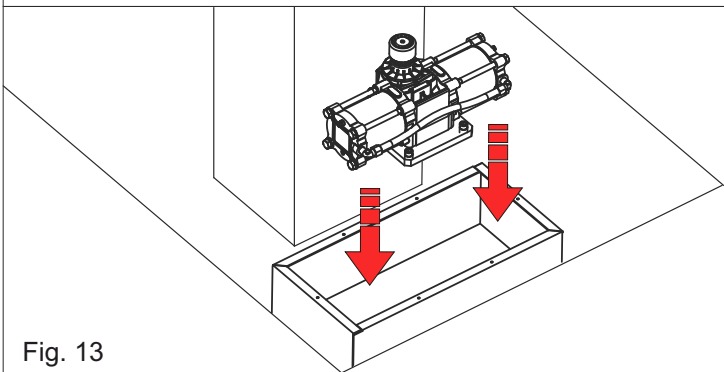
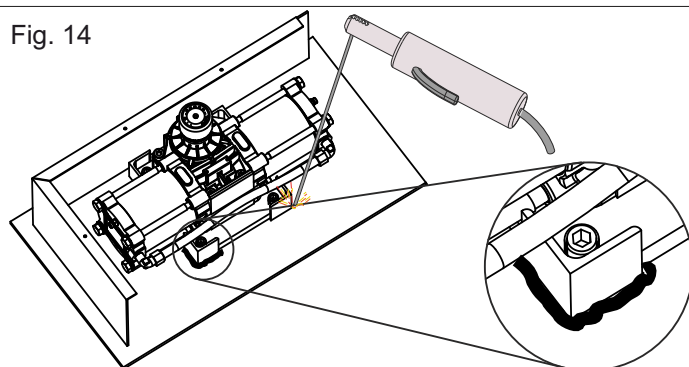

Fig. 13
Fig. 14
3.1. Place the jack in the foundation box (Fig.13), positioning the axis of the output shaft aligned with the axis of the gate hinge; weld the 4 corners to fix (Fig.14)